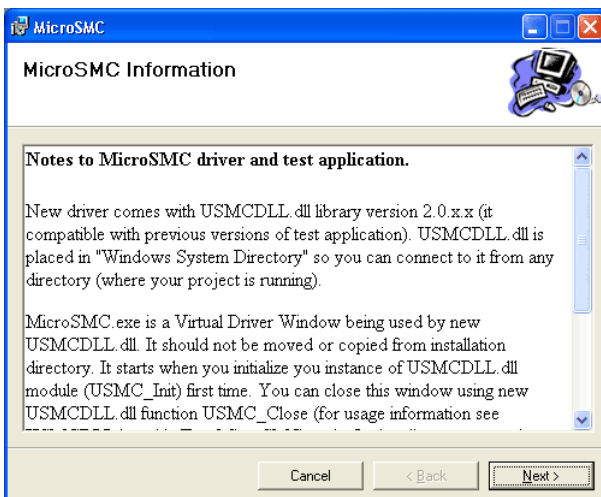

Figure 50. MicroSMC 5th installation screen
- Read brief instructions on using the MicroSMC driver and dll (see Figure 50).